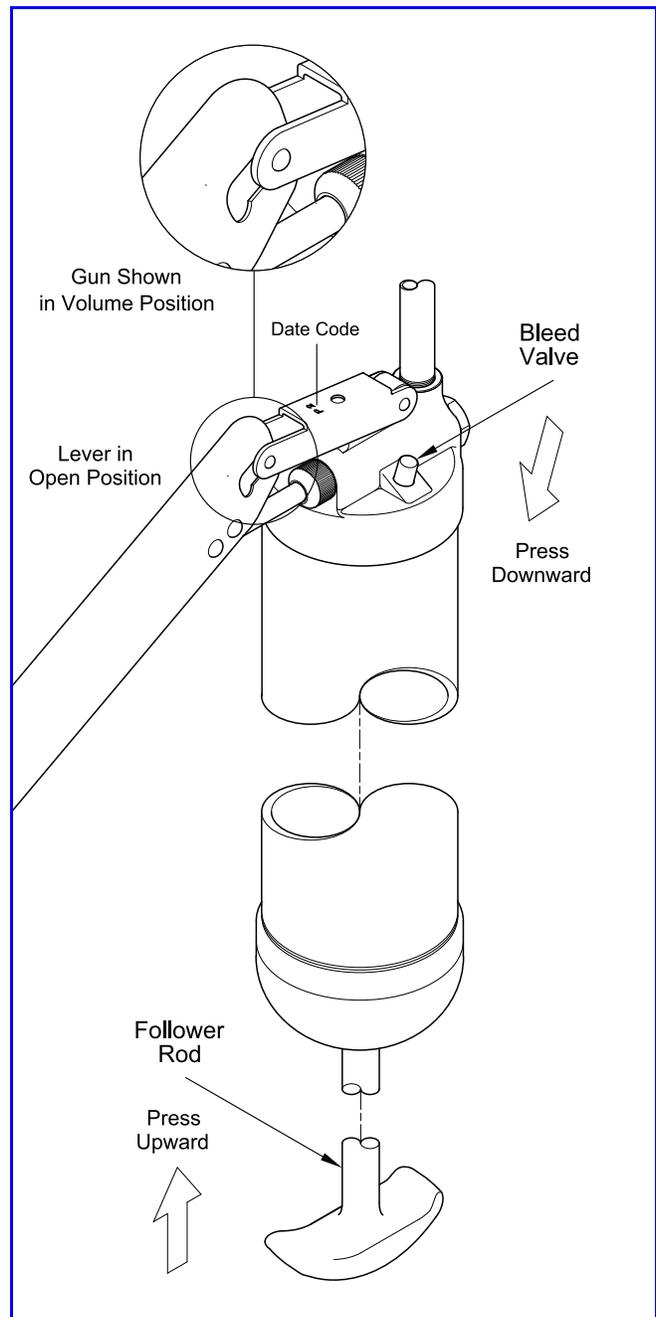

Figure 7 Force Priming the Gun
*IMPORTANT: Make sure the gun is in the volume position. See **Figure 7**.*
4. Depress the Bleed Valve and at the same time push the Follower Rod into the gun's Cylinder. See **Figure 7**.